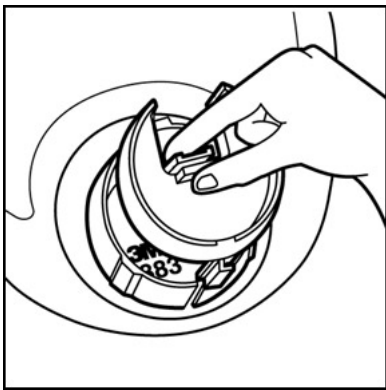
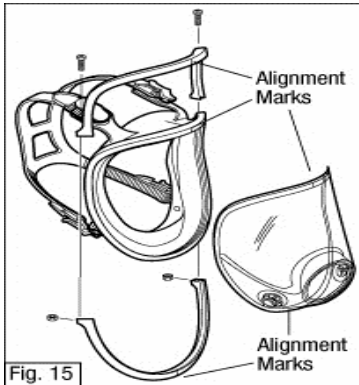

Fig. 13
Fig. 18
2. Squeeze the locking tab at the back of the air director 6881 and pull back to disengage from the DIN port base 6883. (Fig. 13)
5. Align the lug at the bottom of the DIN Air Director 6881 with the slot at the bottom of the DIN Port Base 6883. (Fig. 13) Slide forward and press the center knob until the locking tab clicks into place.
2. Squeeze the locking tab at the back of the 6881 Air Director and pull back to disengage from the DIN Port Base 6883. (Fig. 13)
6. Align the lug at the bottom of the DIN Air Director 6881 with the slot at the bottom of the DIN Port Base 6883. (Fig. 13) Slide forward and press the center knob until the locking tab clicks into place.
2. Squeeze the locking tab at the back of the DIN Air Director 6881 and pull back to disengage from the DIN Port Base 6883. (Fig. 13)
4. Remove the (2) Phillips screws from the lens/faceseal frame. Pull the frame top and frame bottom away from faceseal.
6. Place new lens and faceseal together aligning marks at top and bottom. Position top and bottom frame, again aligning marks top and bottom. (Fig. 18) Install and securely tighten screws. Make certain alignment marks are properly aligned top and bottom with all components.
2. Position bottom frame, aligning center vertical mark, and press in place. (Fig. 18)